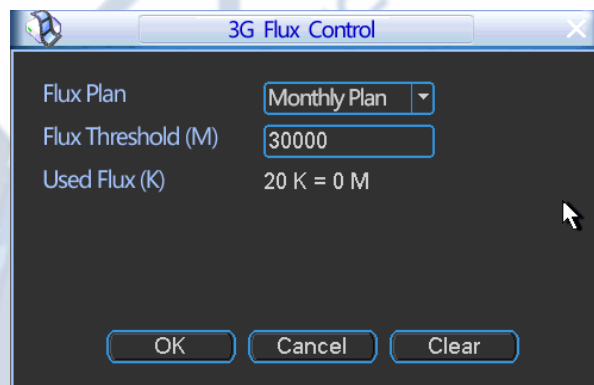

Figure 5-73
- 3G flow control: It is to show the 3G flow you used. See Figure 5-73.